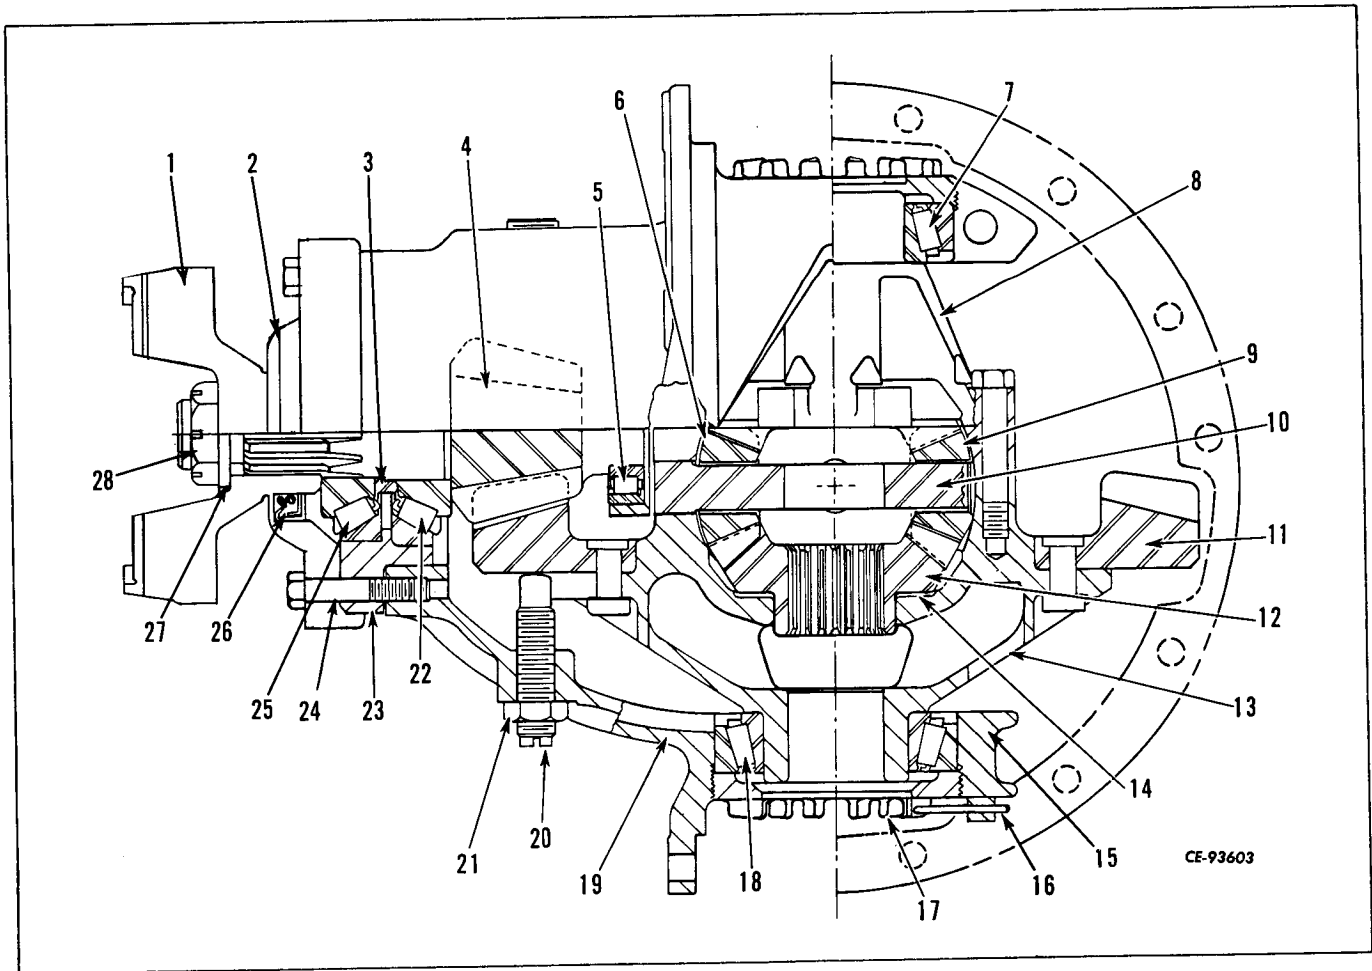
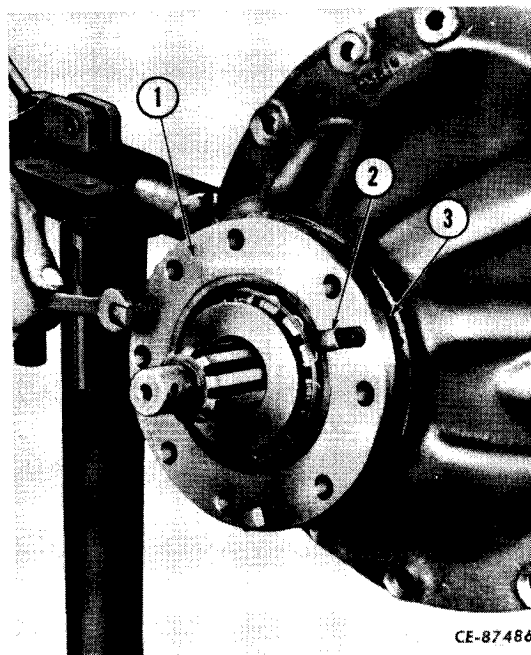

Figure 6-33
Figure 6-45
Remove the cap screws that secure the bearing cage (23, Fig. 6-33) to the carrier housing. Remove the bearing cover and oil seal assembly (2, 26, Fig. 6-33). Install three jack screws (2, Fig. 6-45) in the tapped holes provided in the bearing cage. Rotating jack screws evenly, remove cage assembly. Wire the shim pack (3) together to prevent loss.